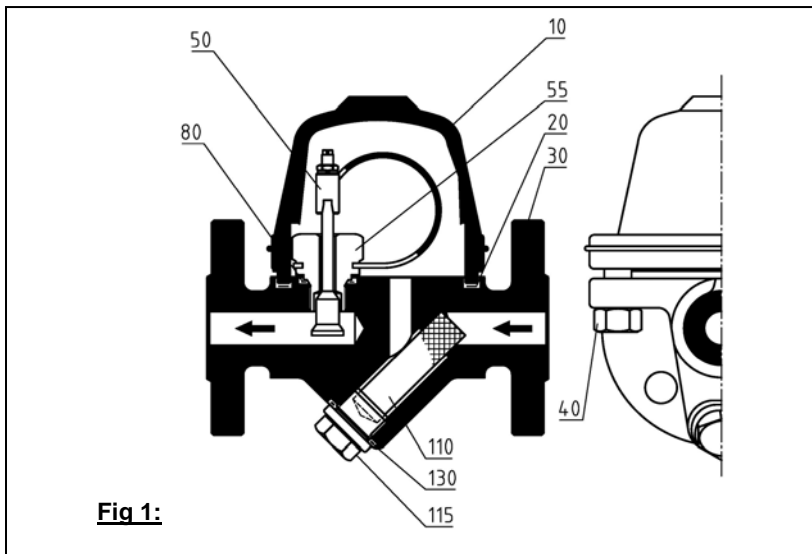

Fig 1:
- Examine the seats part of (10) and (30).
- If necessary insert new housing seal (20) and/or seal (80/81).
- Screw and lock the bi-metal control unit (50), tightening torque 90 Nm.
- Put the bi-metal control in the lower housing (30) according to fig. 1.
- Set carefully the upper housing (10) on housing seal (20) in such a way that the bimetal lies in the housing.
- Put the strainer (3) in the inlet housing (1).
- Tighten the housing screws (40) evenly crosswise: **Tightening torque 30 Nm.**
- Loosen and screw out the drain plug (115).
- Take out the strainer (110) and clean with compressed air.
- With the installing insert a new seal (130) and coat the threat of G1/2" with temperature-resistant lubricant.
- Screw in and counter the drain plug (115). **Tightening torque 140-160 Nm.**